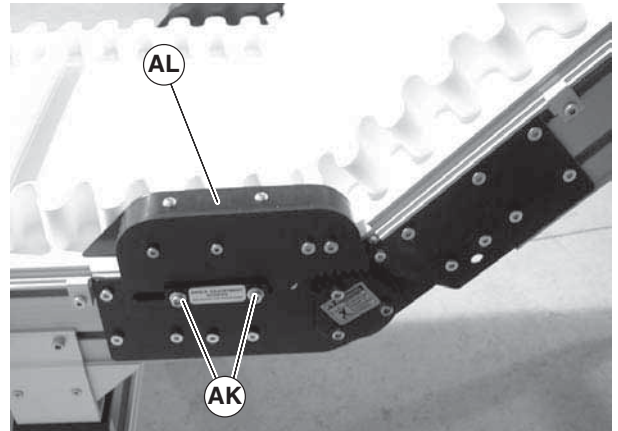

Figure 17
4. If equipped with an upper knuckle, remove screws (Figure 17, item AM) and remove guard (AN) on both sides of knuckle.